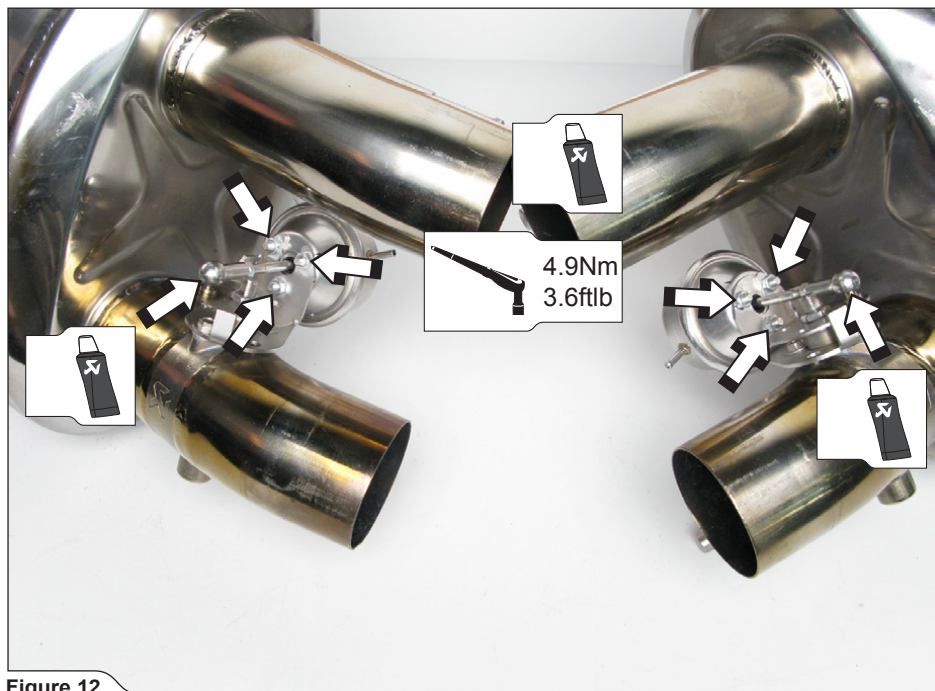

Figure 12
3. **For Slip-On and Evolution:** displace the stock vacuum actuators from stock mufflers to Akrapovič mufflers (**Figure 12**).